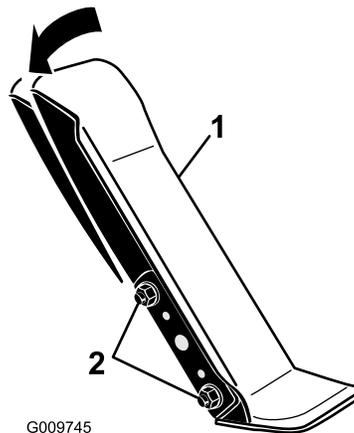

Figure 92
1. Loosen the 2 nuts and bolts securing the left side of the traction pedal to the bracket (Figure 92).
2. Pivot the pedal to the desired operating angle and tighten the nuts (Figure 92).